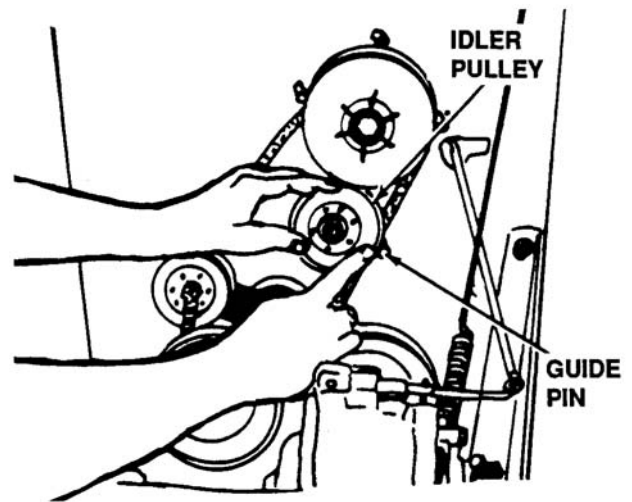

Figure 4-26. Location of Guide Pin
12. When sliding the idler pulley on the idler bracket, be certain the belt is between the pulley and guide pin. See Figure 4-26.